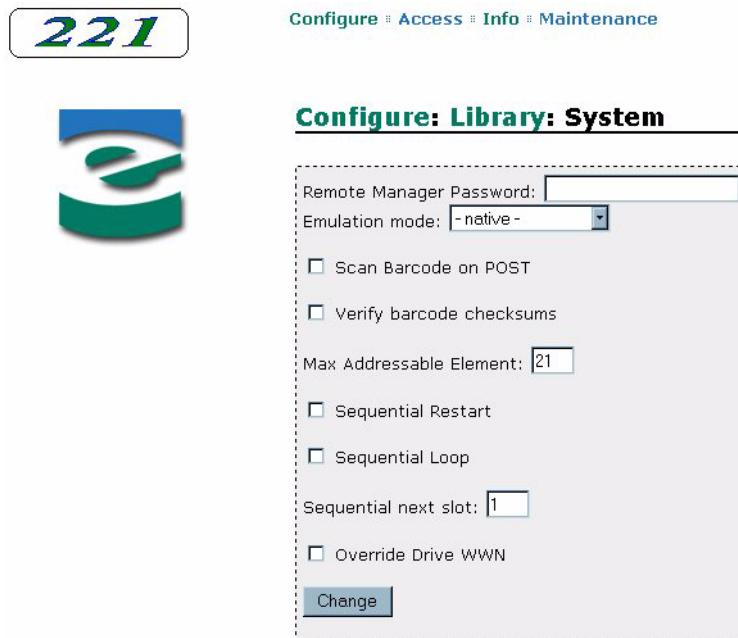

Figure 6-13 Remote management utility – Library System Configuration page
3. Click on Configure library system. A page similar to Figure 6-13 appears.